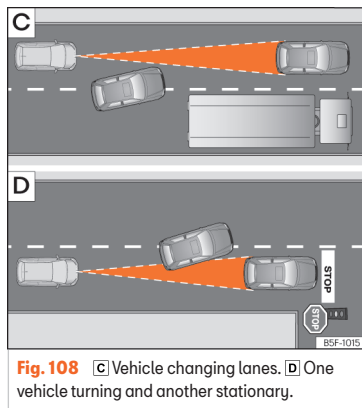

Fig. 108 [C] Vehicle changing lanes. [D] One vehicle turning and another stationary.
- Vehicles that move into your lane, a short distance from your vehicle >>> Fig. 108 [C].
The ACC does not react to stationary vehicles. If, for example, a vehicle detected by the ACC turns or moves over and there is a stationary vehicle in front of it, the ACC will not react to the second vehicle >>> Fig. 108 .